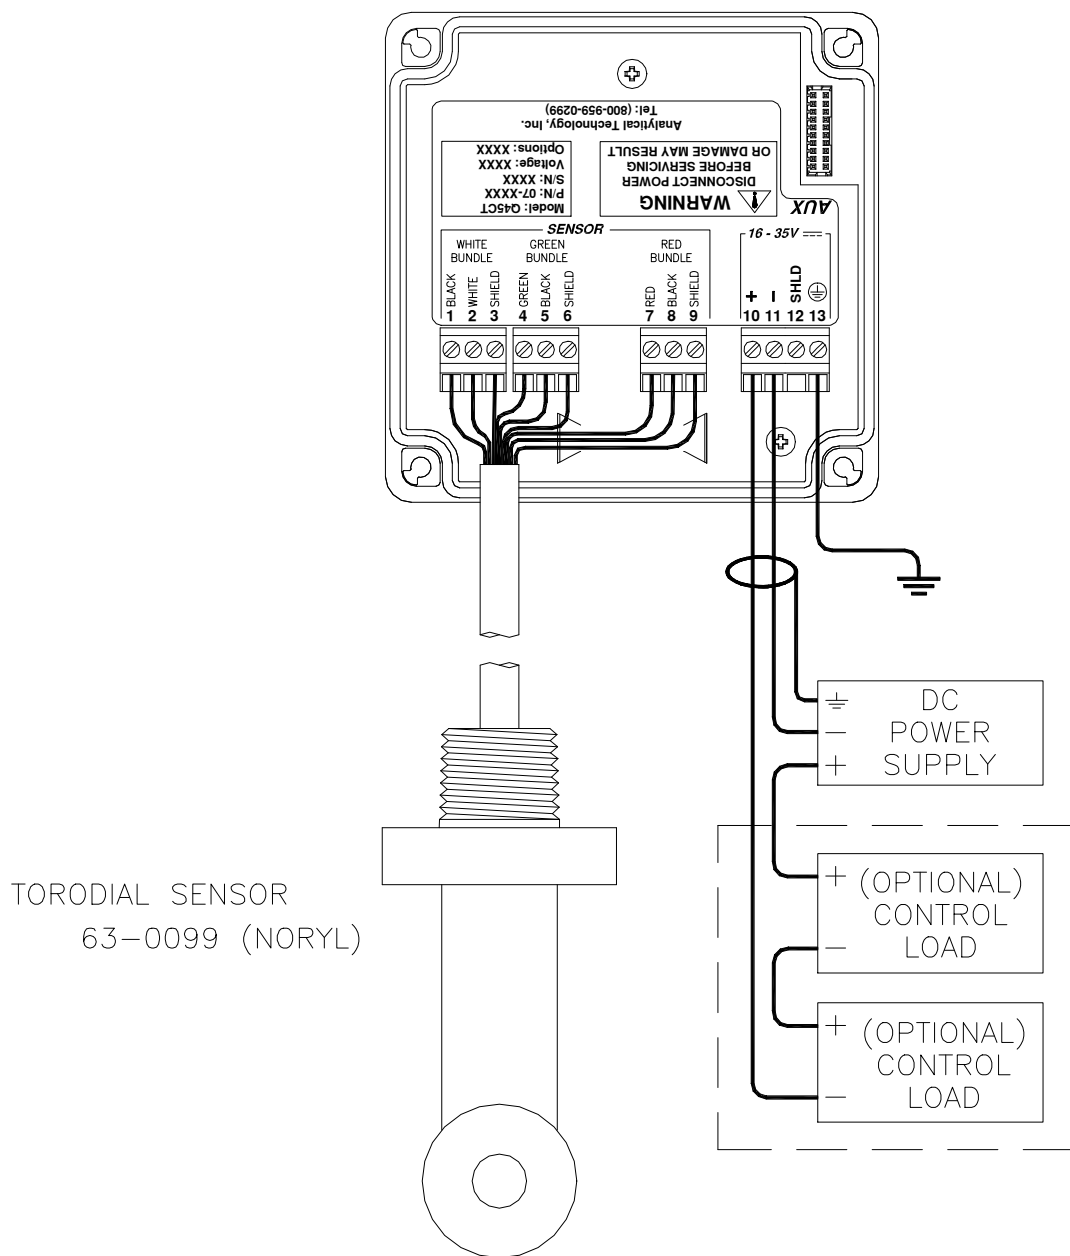

Figure 10 - Loop Power Connection, Q45CT Transmitter
1. Use wiring practices that conform to all national, state and local electrical codes. For proper safety as well as stable measuring performance, it is important that the earth ground connection be made to a solid ground point from terminal 13 (see Figure 10).
In the two-wire configuration, a separate DC power supply must be used to power the instrument. The exact connection of this power supply is dependent on the control system into which the instrument will connect. See Figure 10 for further details. Any twisted pair shielded cable can be used for connection of the instrument to the power supply. Route signal cable away from AC power lines, adjustable frequency drives, motors, or other noisy electrical signal lines. Do not run sensor or signal cables in conduit that contains AC power lines or motor leads.